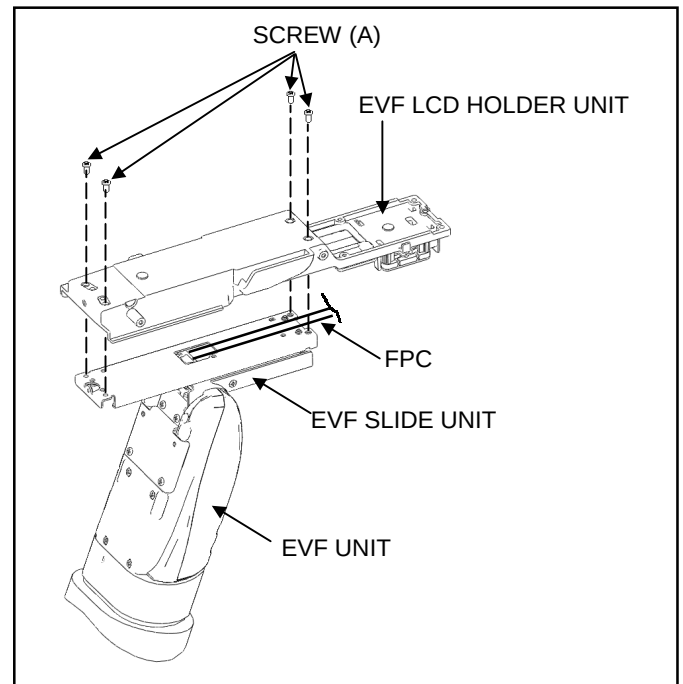

Figure 13-2
5. Unscrew the 4 screws (A) and remove the EVF Unit and EVF SLIDER Unit from EVF LCD HOLD Unit as shown in figure 13-2.